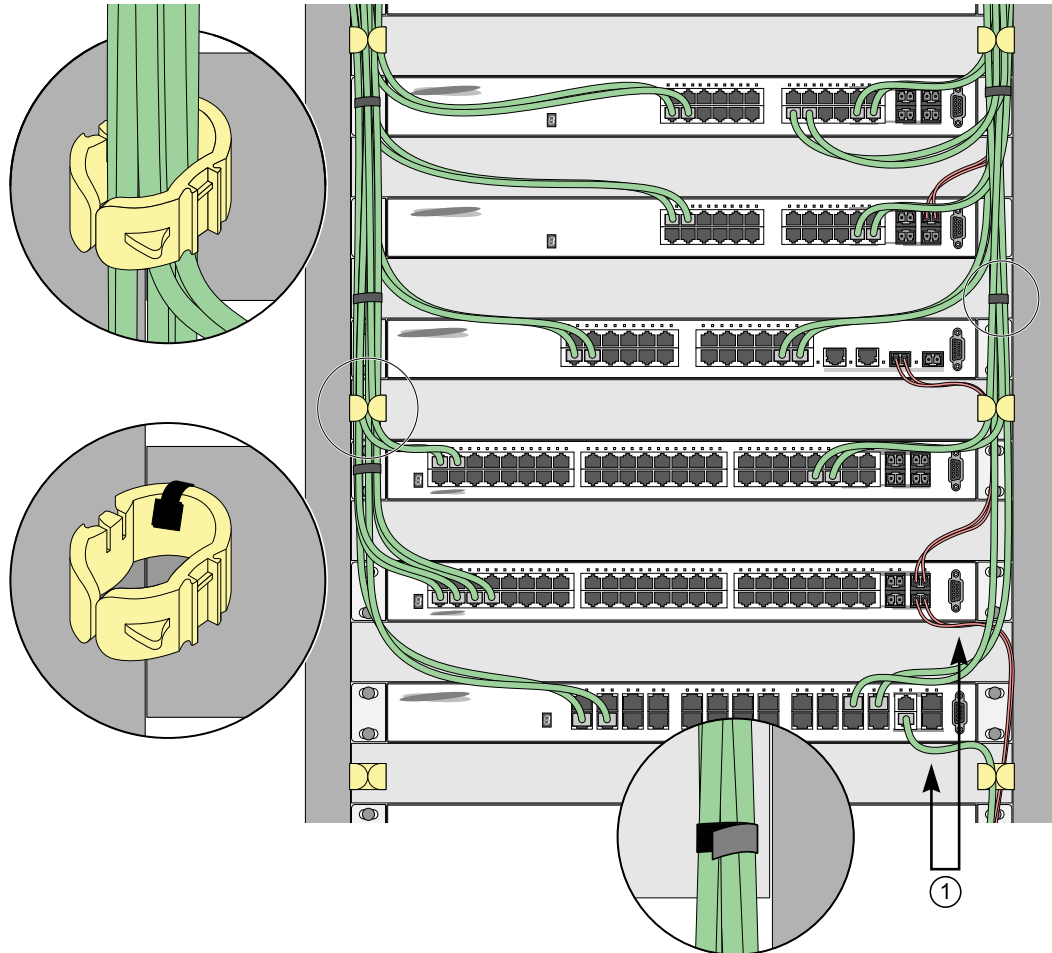

Figure 19: Properly Installed and Bundled Cable
- Provide enough slack, approximately 5 to 7.5 cm (2 to 3 in), to provide proper strain relief as shown in Figure 19 on page 35.
- When installing a patch panel using twisted pair wiring, untwist no more than 2.5 cm (1 in) of the cable to avoid radio frequency (RF) interference.